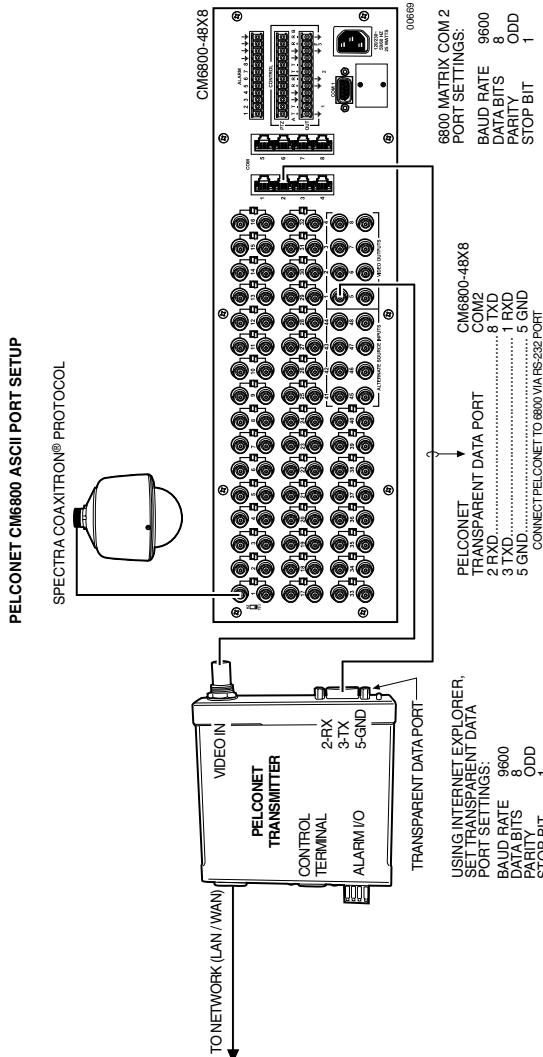
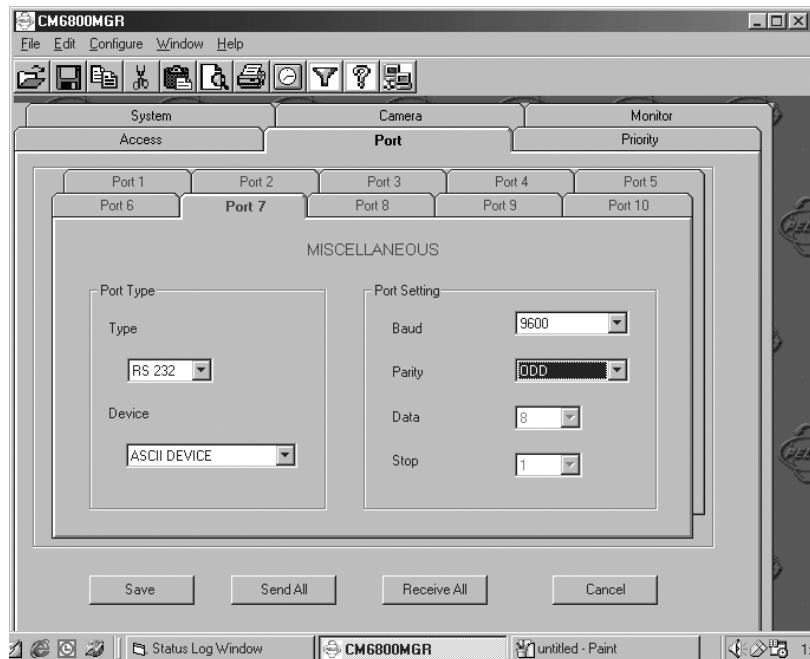

Figure 51. Using PelcoNet with CM6800 to Provide Remote Control
Figure 52. Manager Screen
Refer to Figure 51. This configuration lets an operator view and control cameras with a PC using a web browser. (The operator's PC is not shown on the diagram.) All settings are done in the CM6800 manager program or through a CM6800 menu. Note the following:
- Ports 7 and 8 can be set to ASCII and RS-232 by using the CM6800 manager program (refer to Figure 51) or by using a CM6800 menu (refer to Figure 52).
- Ports 7 and 8 can be set to ASCII and RS-232 by using the CM6800 manager program (refer to Figure 52) or by using a CM6800 menu (refer to Figure 53).